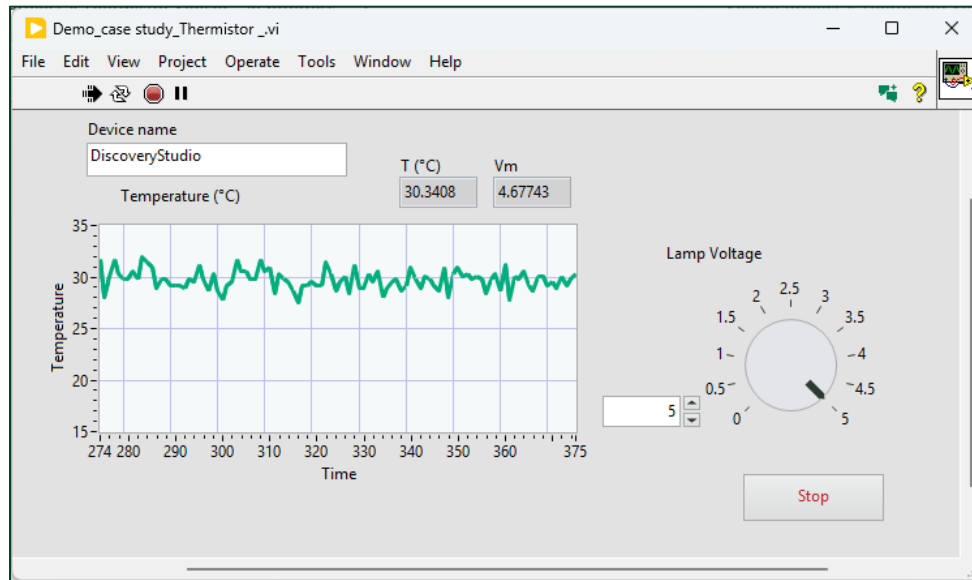

Figure 10. VI Front Panel
2.2. Modify the front panel shown in **Figure 10**. Inside **Device name** String Control write your corresponding **Device** name from **Table 2**.